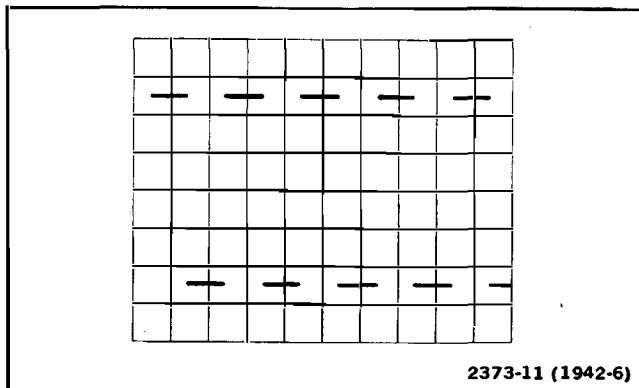

Fig. 11. Display of .5V PROBE ADJ output signal.
6. Adjust SEC/DIV switch to obtain desired display. Using 0.5V PROBE ADJ output signal, display should look as illustrated in Fig. 11 (using a 10X probe with a VOLTS/DIV switch setting of 10 m and a SEC/DIV switch setting of .5 m).